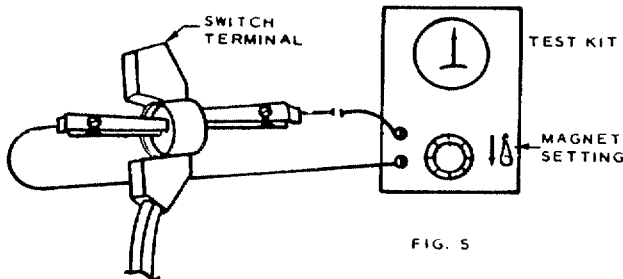

FIG. 5
- (A) Be sure water at thermostat level is below 120°F. To insure this, draw water from hot water faucet until thermometer registers 120°F or less
- (B) With Test Kit on Magnet setting and dial set for maximum amperage, check for switch closure and continuity through the switch by touching clips to opposite switch terminal contacts as shown in Figure 5